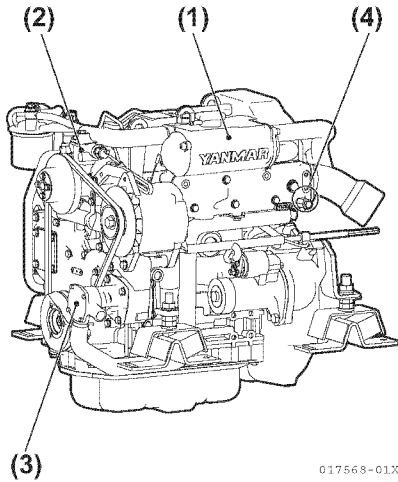

Figure 7-8
1. Loosen the seawater pump cover (Figure 7-8, (3)) to allow water to drain. See *Seawater Pump* on page 7-22.